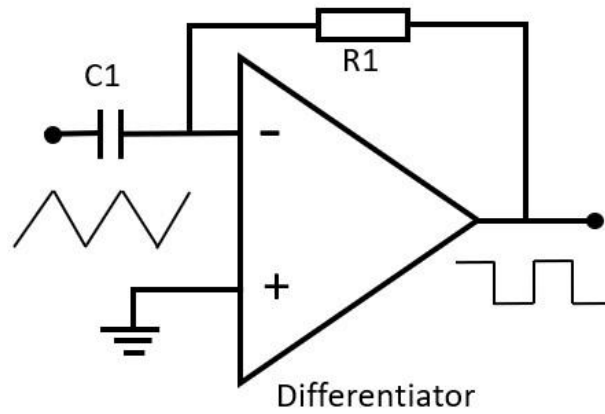

Figure 8: Differentiator.
7. **The Differentiator** is designed so the output of the circuit is proportional to the rate of change to the input. The rate of change is governed by  $C_1$  and  $R_1$  (Figure 8).